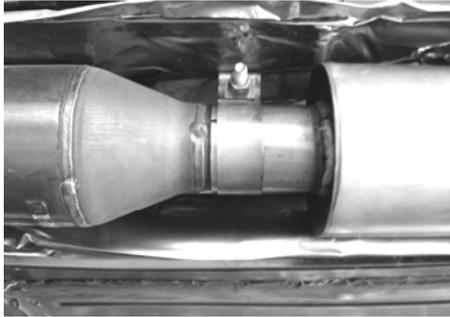

Figure 1
1. Place a clamp over the expanded end of each muffler assembly and set them into position as shown in figure 1. Do not tighten the clamp.